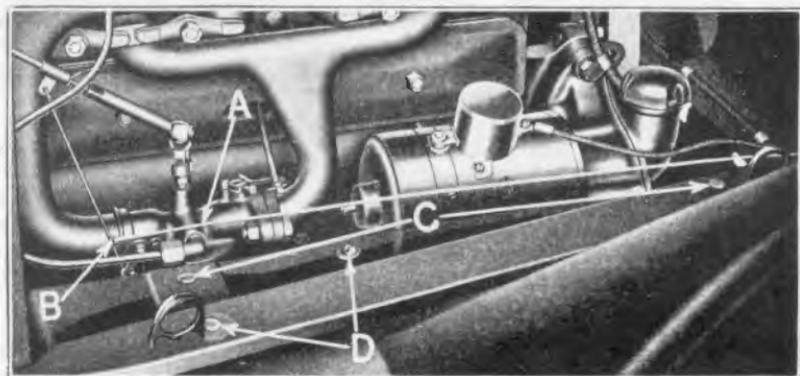
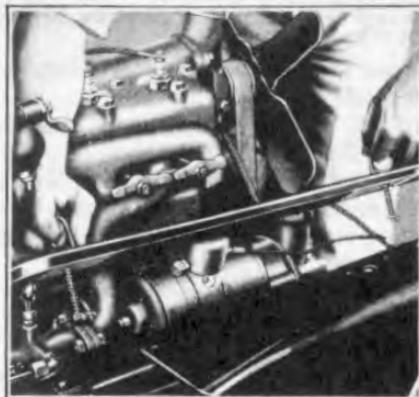

Fig. 524
Fig. 532
- 1126 Open pet cock underneath radiator and while water is draining, lift off hood and disconnect priming rod (see "A" Fig. 524) by unhooking it from carburetor butterfly "B."
1134 Run off the nuts on the ends of the two engine pan bolts (see "C" Fig. 524) also the nuts on the ends of the two hood block bolts
"D" Fig. 524. Hood block can then be lifted from frame as shown in Fig. 532.
- 1143 Insert headlamp wire into notch in hood block and position hood block on frame lining up bolt holes in hood block with holes in frame. The two engine pan bolts (see "C" Fig. 524) are then inserted through hood block frame and engine pan; lockwashers being placed over the ends of each bolt and nuts run down but not tightened until all fender bolts are entered.
- 1144 Place a flat washer over the end of one of the two hood block bolts (see "D" Fig. 524) and insert the bolts through the hood block. Place a lockwasher and nut over the ends of each of the two bolts and draw the nuts down tightly.
- 1152 Connect carburetor priming rod to carburetor butterfly by inserting priming rod through radiator apron and hooking it into carburetor butterfly. (See "B" Fig. 524.)